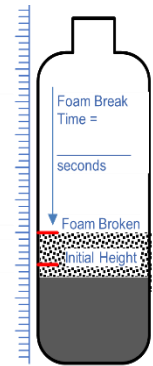

Figure 3
- After shaking, record the time in seconds it takes for the foam to settle to the Foam Broken Line. See Figure 3.